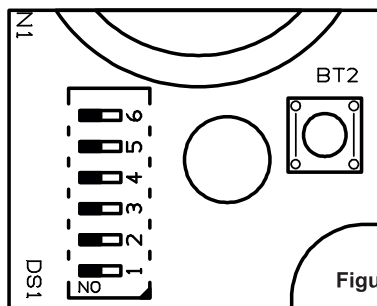

Figure 3
2. Select using the switches S1 and S2 (figure 3) the special function «Clean air calibration»
3. Press the button BT2 (figure 3) for more than 3 seconds until the 3 system LEDs (green, red and yellow) start to blink with a one second rate.
5. Select via the micro-switch S4 (figure 3) the concentration of the reference calibration gas that will be used (20% or 50% L.E.L.).
6. Select via the micro-switches S1 and S2 (figure 3) the special operation «Calibration with a reference gas».
7. Press and hold the button BT2 (figure 3) for more than 3 seconds until the 3 system LEDs (green, red and yellow) start to blink (**intermittent blink once a second**) and then release the button.
The BS-377/WP/A and BS-378/WP/A detectors (figure 3), have six dip-switches to adjust the operation mode.
-S1 & S2. These switches determine the operation of special maintenance and test functions. To conduct these functions, select the suitable combination with the switches S1 and S2 and press the internal button BT2 (figure 3) for more than 1 second. The function «output test» activates all the LEDs, the buzzer and the alarm relay and deactivates the fault relay while the button is being pressed. For the calibration function, detailed instructions are given later on in this manual.